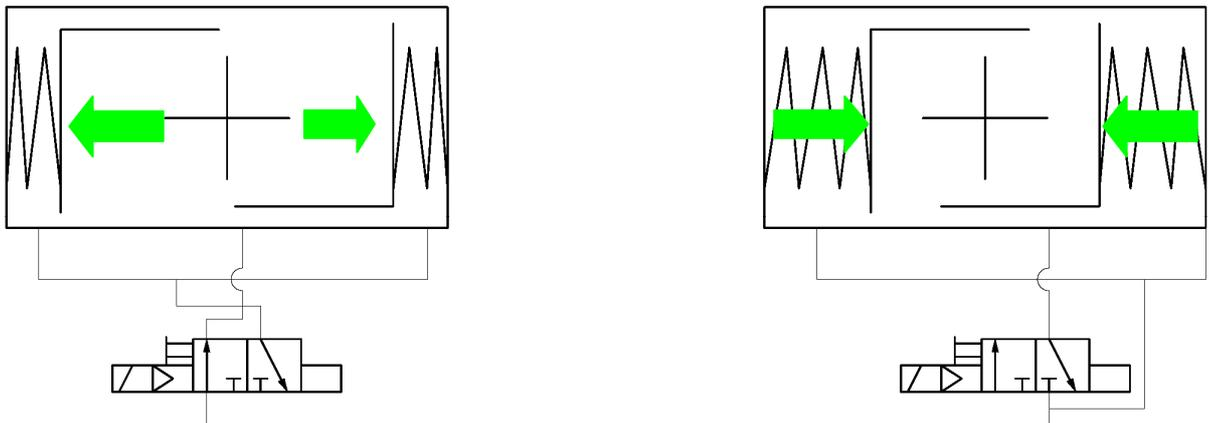

Fig. 2: Schematic diagrams for single-acting actuators EB SYS
- ▶ single-acting actuators with spring reset EBx.1 SYS are shown in Fig. 2.
<p>In the standard version of the actuator, feeding control air to the left connection will cause an anticlockwise motion; feeding to the right connection will cause a clockwise motion.  Spring-reset actuators are to be fed only via the left connection; see fig. 2</p>